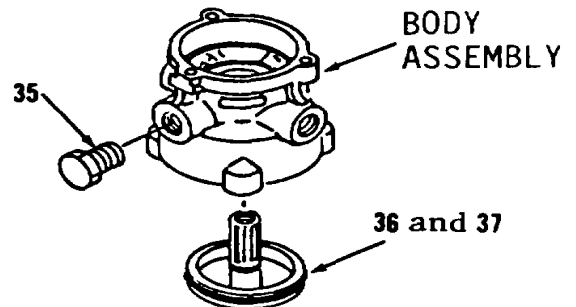

Figure 6-39.
14. Remove plug (35, Figure 6-39) from body assembly.
15. Remove items 36 and 37 as an assembly from body assembly.